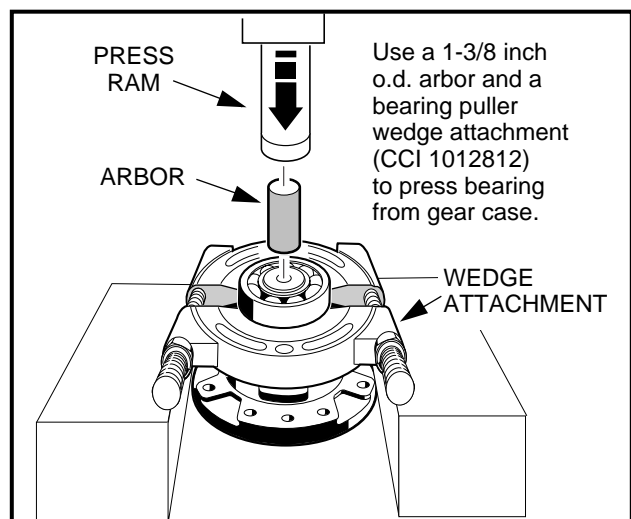

Figure 16-46 Remove Bearing
6. If the bearings (79) are to be removed, place a bearing puller wedge attachment (CCI 1012812) between the bearing and gear case (84) (**Figure 16-5, Page 16-4**) and press the bearing off as shown (**Figure 16-46, Page 16-21**). Repeat the process for the bearing on the carrier cover (87) (**Figure 16-5, Page 16-4**). **See following CAUTION.**